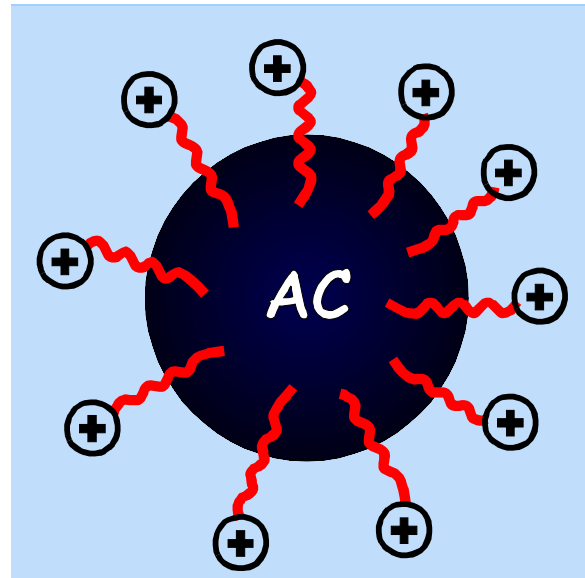

Figure 3.3. Cationic (+) emulsion
b) Cationic Emulsifiers are also made of acid salts. Cationic emulsifiers give a positive (+) charge to the asphalt particles. The most often used emulsifiers in Minnesota, by a wide margin, are cationic. This is because most aggregates have a negative charge and thus attract cationic emulsifiers, causing a good bond. Figure 3.3 shows a cationic emulsified asphalt particle.